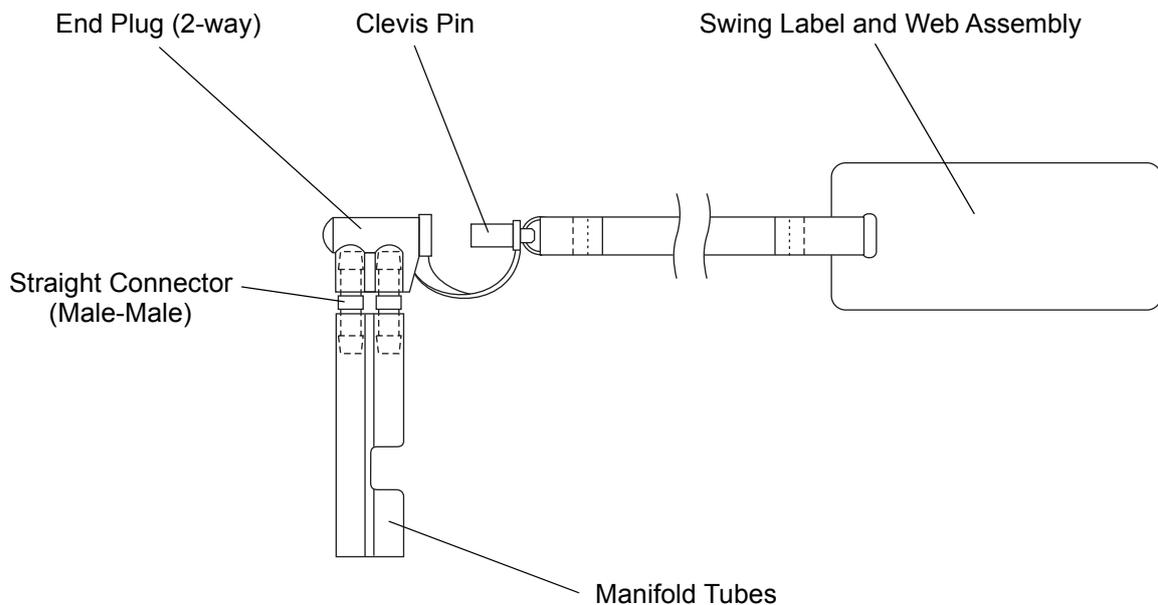

Figure 26 - CPR/Rapid Deflate End Plug Assembly
- 10.3 Replace the following parts on the CPR end plug assembly as necessary (Refer to Figure 26):